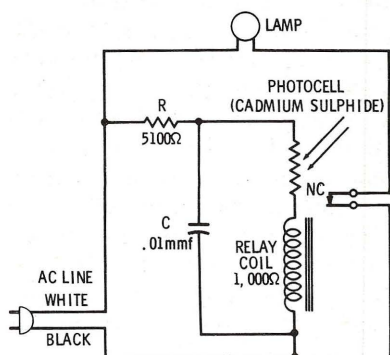
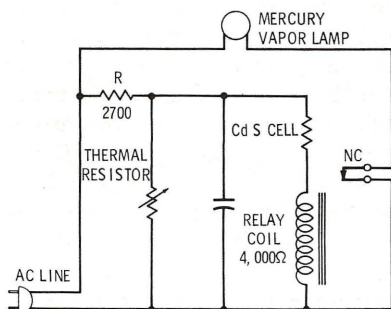

Fig. 8-1. Schematic diagram of a small photoelectric cell.
Fig. 8-3. Schematic diagram of a large photoelectric cell.
Fig. 8-1 shows the schematic of a typical unit. This is one of the smaller types which is mounted on top of a reflector, and uses bulbs with ratings up to 300 watts. Here, the a-c current comes in at the top (white) wire, flows through a 5100-ohm resistor (R) through a cadmium-sulphide cell (abbreviated CdS), then through the relay coil, and back to the line. The CdS cell in this application is a “variable resistor.” The wiggly arrows denote the fact that the resistance is determined by the amount of *light* which falls on the surface. When it is dark, the cell has a high resistance; when light falls on it, the resistance goes down, allowing more current to flow. The actual control of the lamp bulb is done by the contacts of the sensitive relay. These contacts are normally closed, meaning that when the relay has no current through it, the spring holds the contacts closed and the light is on.
Cover the face of the cell and take a resistance reading directly across the terminals. The "dark-reading" should be high. Uncover the cell and let the bench light strike it, the resistance should drop to about 1500–2000 ohms. If all of these readings are correct, the unit should work. Most of these units use a small capacitor (C) across the relay coil and photocell as a filter. If this should be shorted, the relay will not work and the 5100-ohm resistor may be burned up as well. Check the total resistance across the capacitor terminals. This should be the sum of the resistances of the photocell and the relay coil, as in Fig. 8-1. For example, if the cell is covered, you should read about 15,000 ohms. If the capacitor is shorted, you may read 100 to 200 ohms or even a dead short (zero resistance). To make a reliable test, disconnect one end of the capacitor, and recheck the resistance. You should never read any resistance between the leads of a good capacitor. It should be a completely open circuit. If the capacitor is shorted, remove it and take it to a radio-television shop, they can tell you what size it was, by its color code. If this is not decipherable, a 0.01-mfd capacitor at 600 working volts, is a pretty good compromise value, since it is the most common size found in such circuits.
Fig. 8-3 shows the schematic of a larger unit. Although it is exactly like the first in principle, it has some refinements. It is used
The control unit in Fig. 8-1 works almost instantly. There is usually about a 1-second delay between light striking the photocell and the lamp turning on. In the larger unit of Fig. 8-3, there will be a slightly longer delay. This is not due to the control unit, but to the characteristics of a mercury-vapor lamp. The mercury-vapor lamp